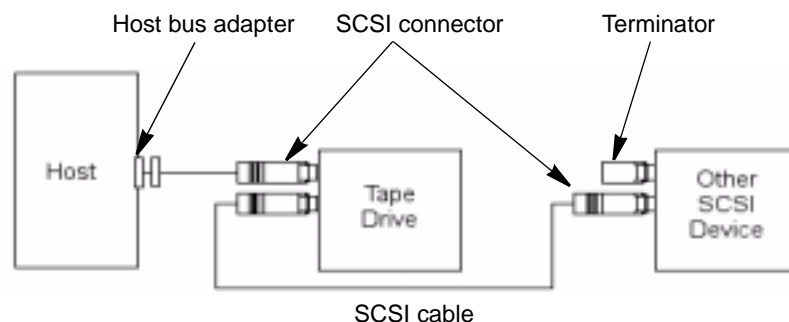

Figure 2-3 Another peripheral is the last device on SCSI bus
- ▶ If the tape drive is one of multiple devices on the SCSI bus, connect SCSI cables between the tape drive and other devices on the bus, as shown in Figure 2-3. If there are additional devices on the SCSI bus, ensure that only the device at the physical end of the bus is terminated.